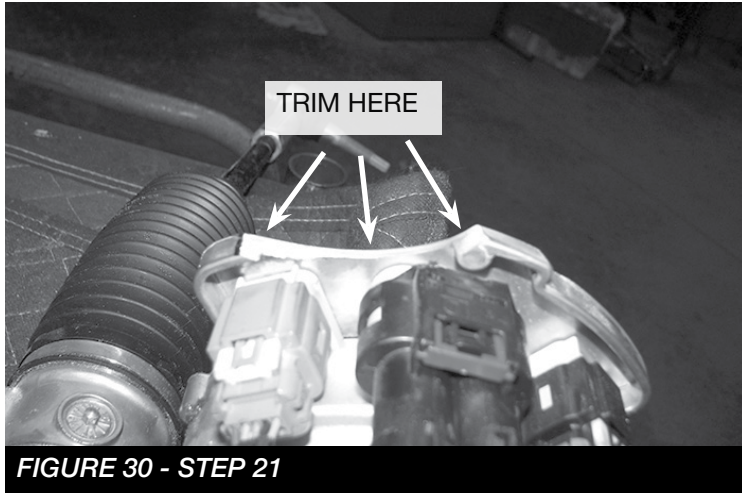

FIGURE 30 - STEP 21
21. Unplug the steering rack harness and remove the steering rack. Due to manufacturer variances, some steering racks will need to be trimmed on the passenger side where the wiring harnesses are located. If the rack has an extended lip over the harness carefully trim a radius like shown in **FIGURE 30**